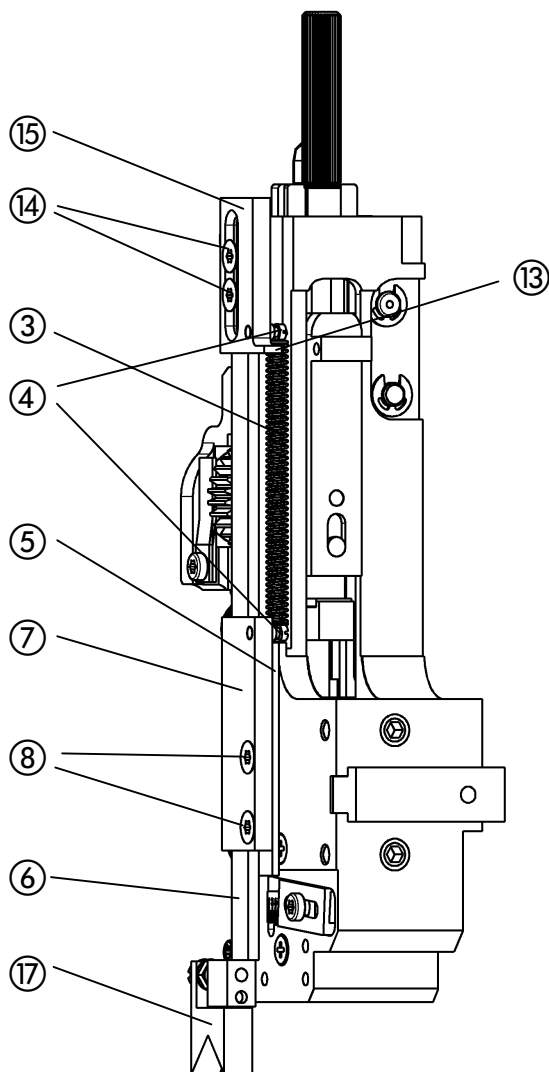

Fig. 18
Fig. 18 a
Fig. 18 b
- Fig. 18 -
- Attach tension spring ③ to the two spring bolts ④.
- Mount distance plate ⑤ on stitching head.
- Insert slotted screw ⑩ laterally into the clincher box mounting.
- Fix slide ⑨ with slot on slotted screw and tighten lightly using the locking nut ⑪.
- Push the complete slide ⑨ against the clincher box.
- Align the V-block of the slide to the center of the clincher box with the help of the M5 setscrew ⑫
- Tighten the locking nut ⑪.
- Fig. 18, Fig. 18a, Fig. 18b -